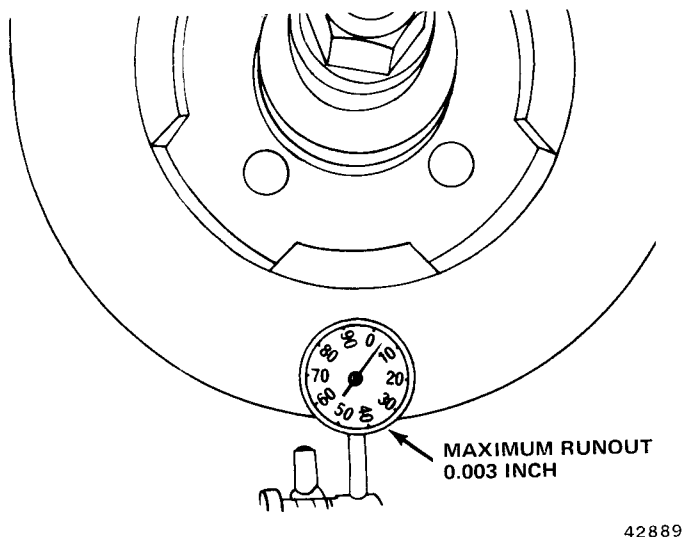

Fig. 9-39 Checking Lateral Runout
- (1) Tighten wheel bearing adjusting nut enough to remove all end play from wheel bearings.
- (2) Check Lateral Runout: Lateral (face) runout of rotor, as measured at outboard braking surface, must not exceed 0.005 inch (fig. 9-39). Lateral runout will cause rotor wobble resulting in chatter vibration, pedal pulsation, and excessive pedal travel (brakeshoes knock pistons back into caliper core).
- (a) Check runout by mounting dial indicator on pedestal-type stand or on spindle with indicator stylus contacting outboard braking surface one inch from edge of rotor (fig. 9-39).